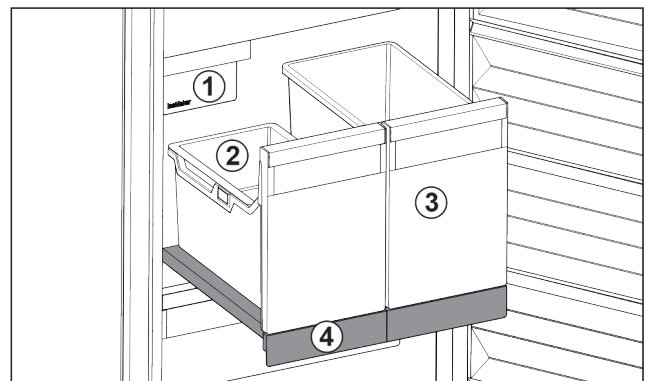

Fig. 93 Pull-out board with IceTower
- (2)** Hang-on tray for ice cubes      **(4)** Pull-out board
There are two high (IceTower) containers on the pull-out board. Ice cubes from the IceMaker are collected and stored in the *Fig. 93 (2)* container. The container *Fig. 93 (3)* is suitable for storing tall foodstuffs or beverages such as pizzas or alcoholic drinks.